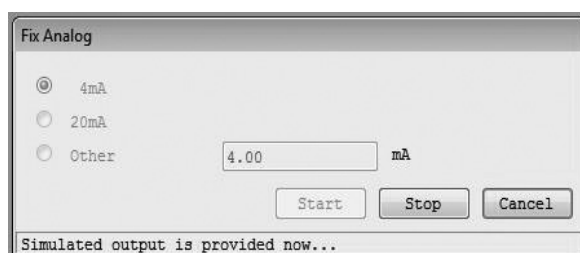

Fig. 3-51
- (4) By clicking "OK" button, the analog value you set will be output. While the simulated output value is output, a message "Simulated output is provided now." is displayed at the bottom of the window as shown in Fig. 3-51.
- (6) By clicking "OK" button, the window will return to the window shown in Fig. 3-51. Click "Cancel" button to exit "Fix Analog".